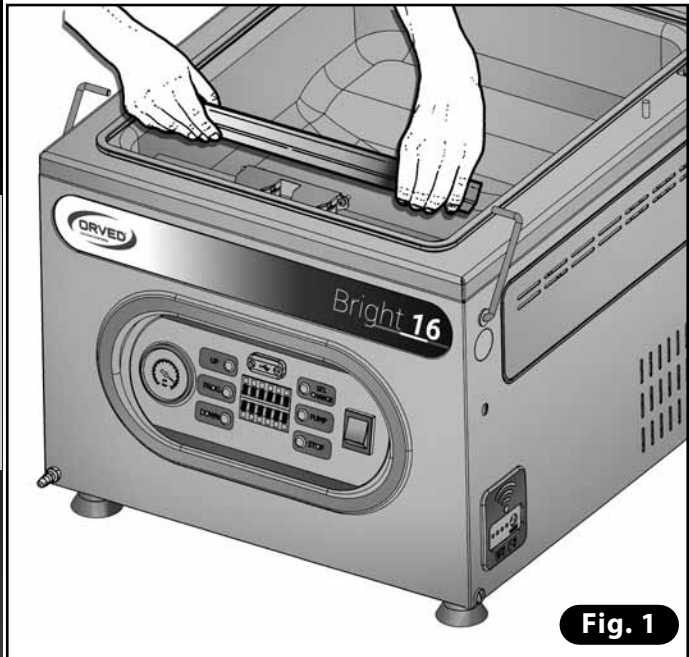

Fig. 1
1) Extract the sealing bar by lifting it horizontally at both ends (Fig. 1).